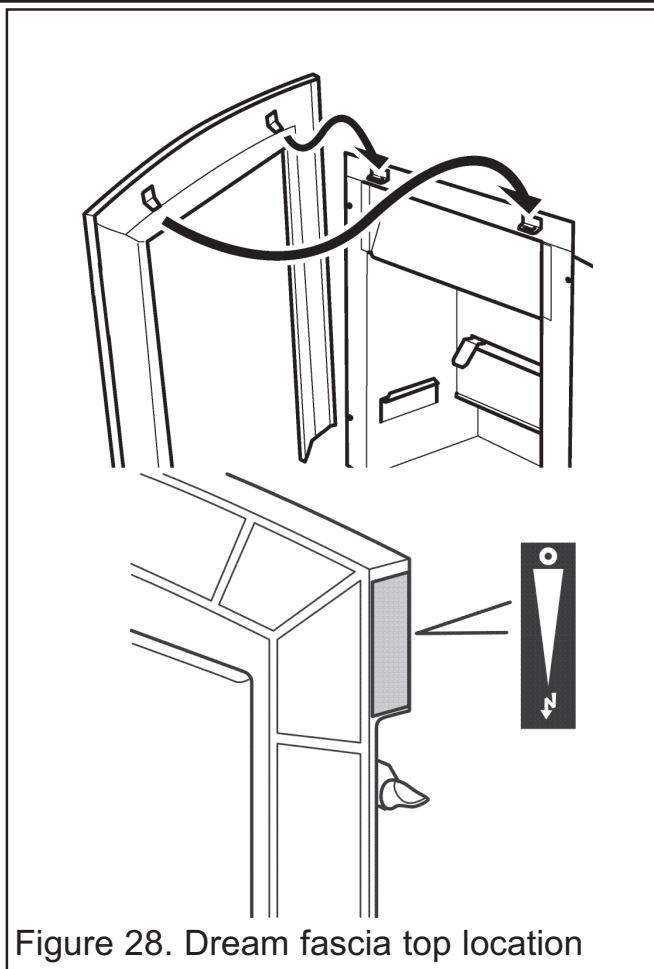

Figure 28. Dream fascia top location
ii) Lower the fascia making sure that the rear retaining plates locate fully into the retaining brackets on the convection box (See figure 28). If the inlet pipe runs along the front of the fireplace, the bottom of the fascia will have to be swung forwards to clear the pipe while lowering the casting.
**5. 945FS only** - Supplied with the fire is a self adhesive control position label. Peel the backing from the label and place as in figure 28.